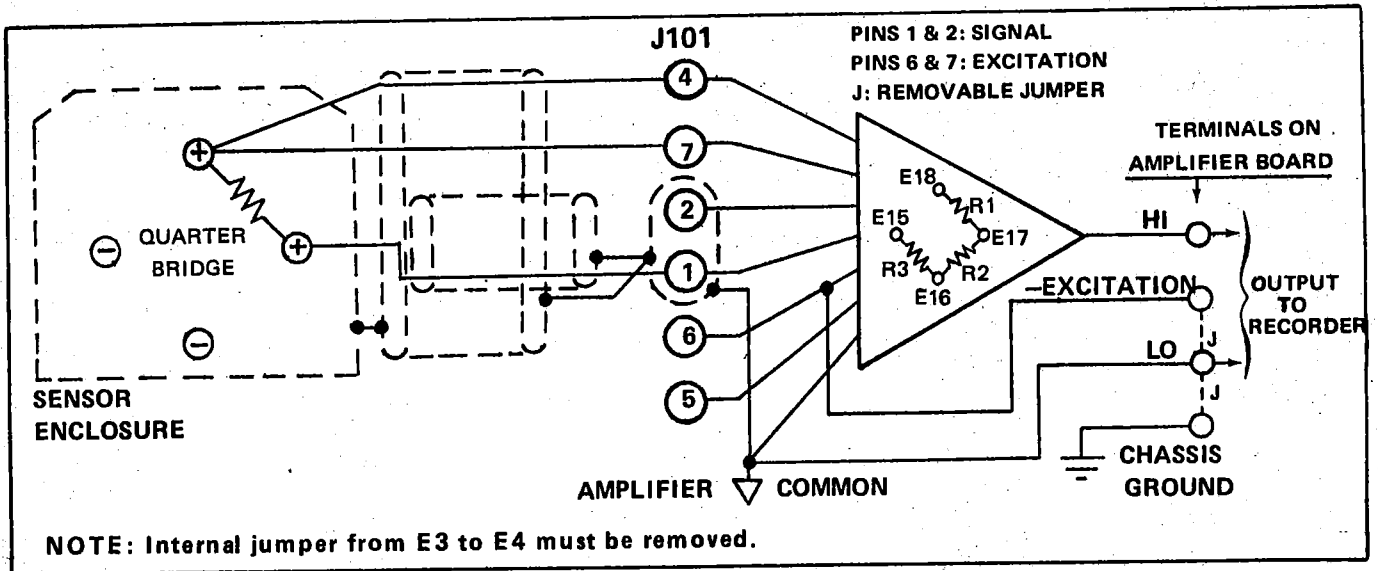

FIGURE 3-5 SINGLE ARM GAGE CONNECTIONS, SHOWN WITH TEMPERATURE COMPENSATION
3.4.3 Single Arm Gage (Figure 3-5)
- b. Connect Positive excitation lead to pin 7 of the Preamp input connector. For temperature compensation, as illustrated in Figure 3-5, connect a third lead going from the positive excitation terminal of the gage to pin 4 and remove the jumper between E3 and E4. The extra input lead required must be an integral part of the input cable. Refer to paragraph 6.10, Temperature Compensation.